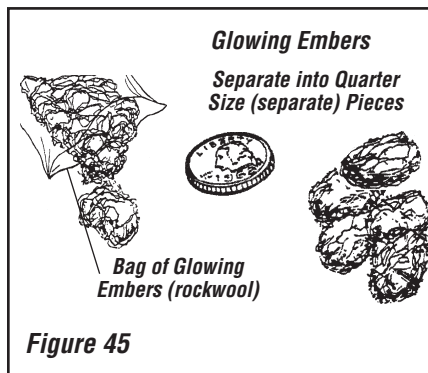
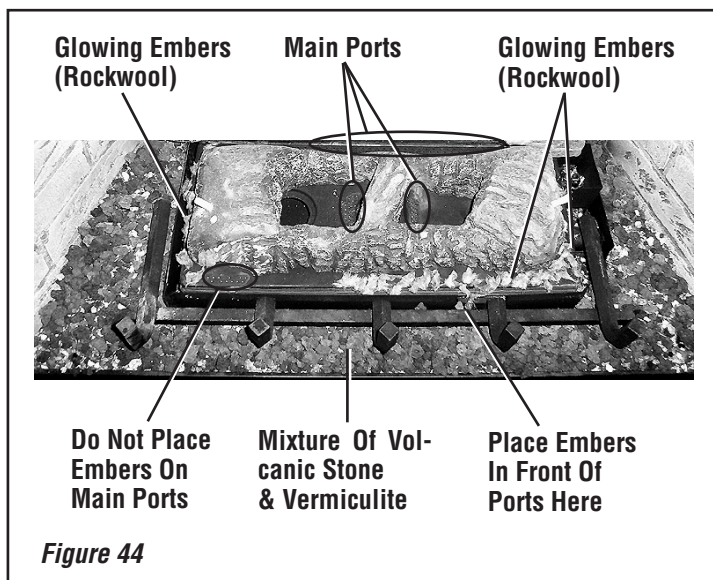

Figure 45
Figure 44
3. **Install decorative volcanic stone** - Sprinkle the decorative volcanic stone in a pleasing pattern (see **Figure 44**). The volcanic stone should be placed directly on top of the firebox bottom, along the slope and to the back at the right and left sides of the burner. Position any ceramic fiber liners before placing the stone. Logs can be positioned after the volcanic stone.
4. **Placement of Glowing Embers** - Separate the Embers (rockwool) into pieces about the size of a quarter (see **Figure 45**). Keep the pieces fluffed up, not matted. Distribute these pieces over the surface of the burner, as shown in **Figure 44**. Do not use more than is necessary. **Ensure that the main burner slots remain uncovered by the ember material.** Position the embers on the small holes of the ember bed area.